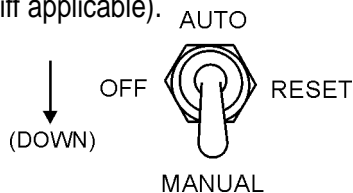

Figure 46. Off/Manual/Auto Switch (Manual)
9. Place the Off/Manual/Auto switch (Figure 46) in the **MANUAL** position (down). Observe that the engine begins to crank (iff applicable).